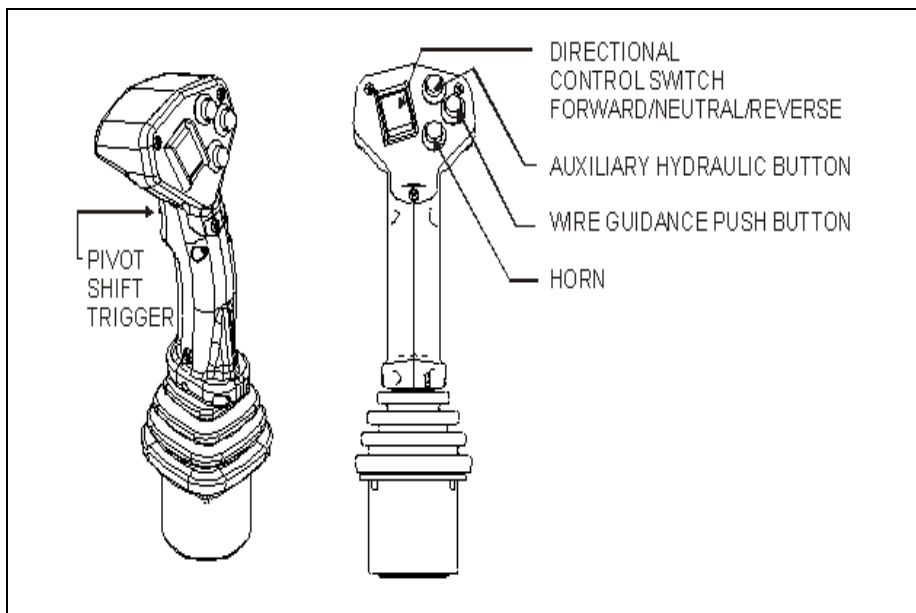

Figure 4-4: Joystick Operation
To activate the wire guidance system, press and release the wire guidance button location on the joystick. **See Figure 4-4.**
To use the auxiliary hydraulic function for an approved attachment (such as a fork positioner or roll clamp), press and hold the auxiliary hydraulic function button on the joystick while moving it forward or backward. **See Figure 4-4.**
The direction control switch is located on the joystick. **See Figure 4-4.** Rocking the switch forward enables the truck to go forward. Rocking the switch back allows the truck to go in reverse.
The horn is located on the joystick. **See Figure 4-4.** Press the horn button to sound the horn.
2. Set the direction control switch to neutral. **See Figure 4-4.**